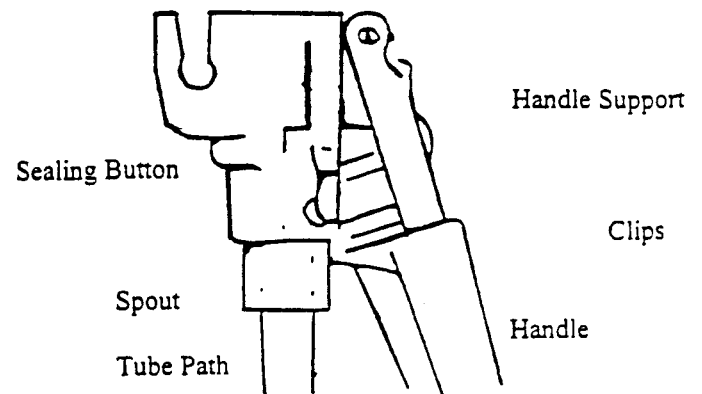

Fig. 1
- b. Grasp clips on handle. Squeeze clips until they are free from panel. Pull straight down on handle (see Fig. 1).